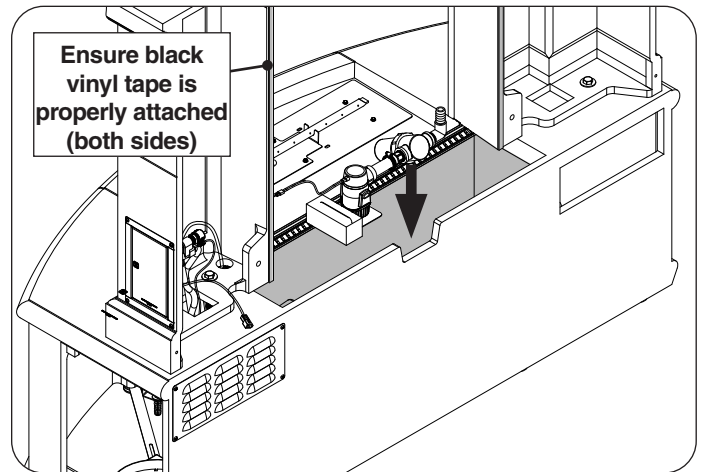

Fig. 29-2 Drop in water pump
1. Lower the pump into the water trough as shown in Fig. 29-2. The pump catch net is not shown for clarity.
2. Inspect the black vinyl foam tape (as shown in Fig. 29-2) and ensure it is properly attached. Press down any areas if needed.